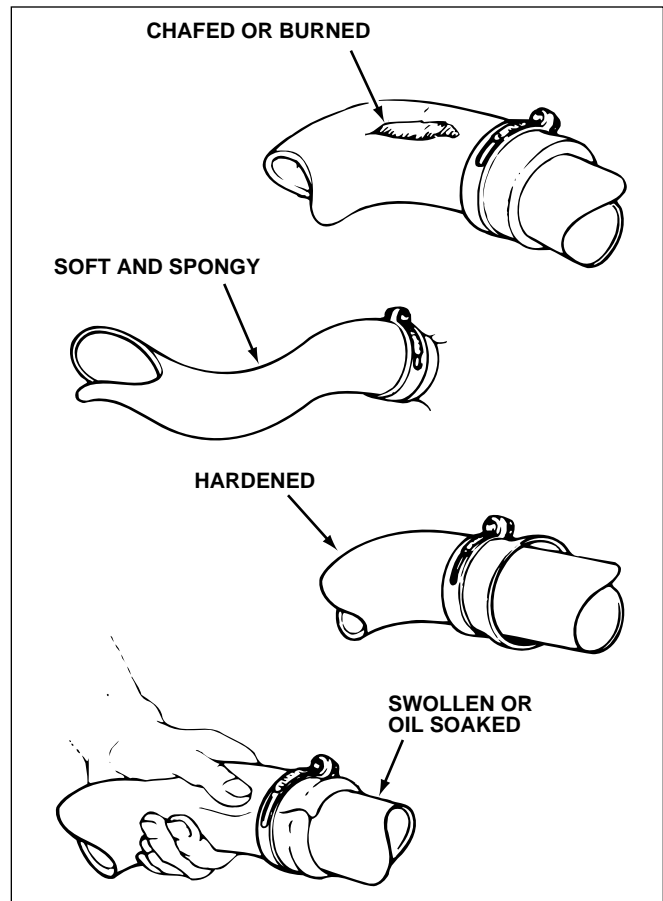

Fig. 1-2. Check hoses for damage.
- Check all hoses to make sure none are soft, brittle, kinked, or otherwise damaged, figure 1-2